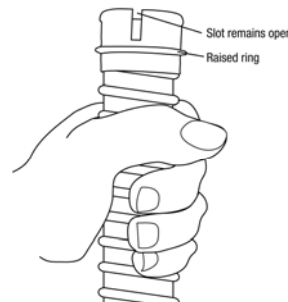

Fig. 9
4. Grasp the free end of the breathing tube below the raised ring on the slotted connector. Ensure that the slots on the connector are open and not covered. (Fig. 9)